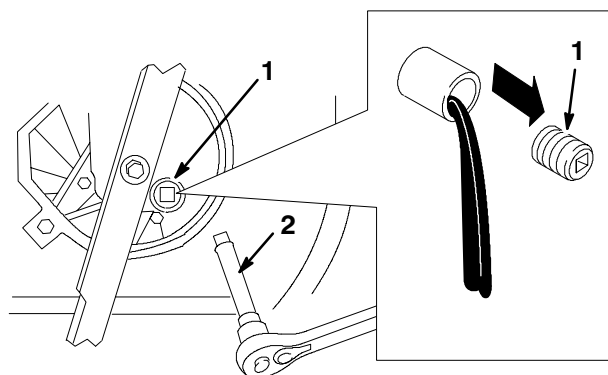

Figure 14
5. Remove the oil drain plug, return the lawn mower to its operating position, and allow the oil to drain into the drain pan (Fig. 14).